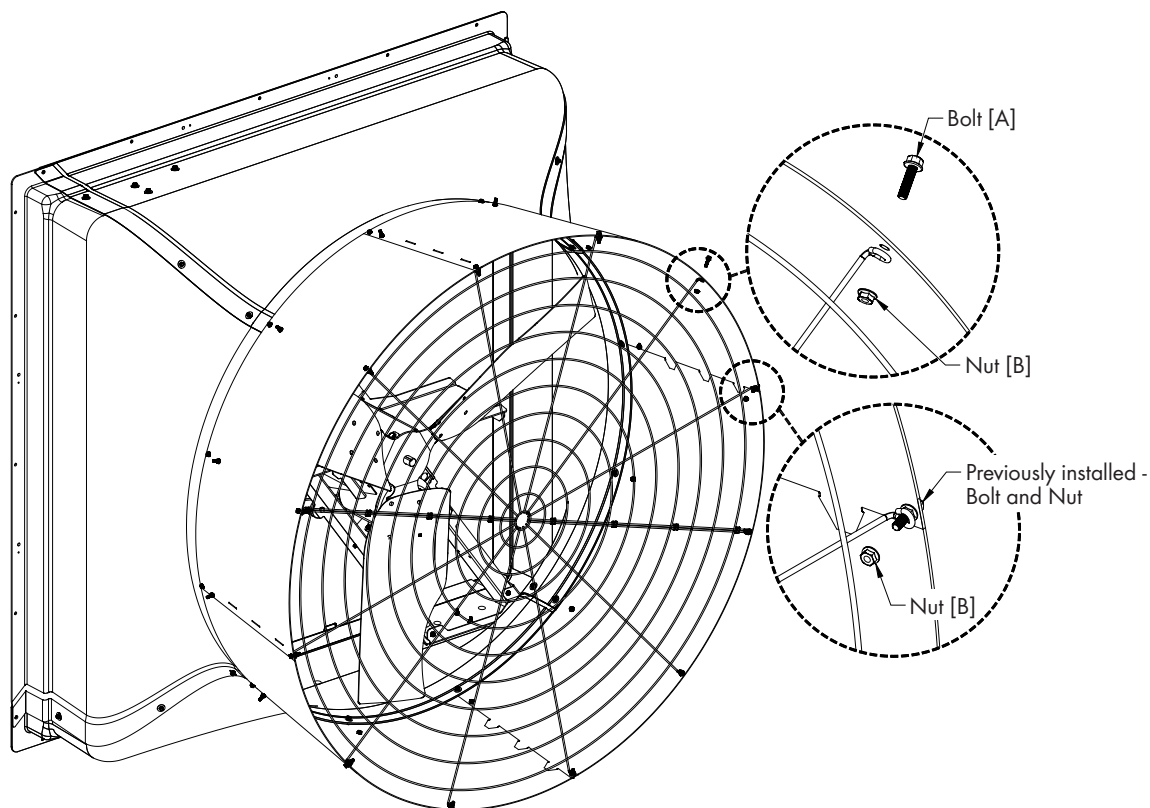

Figure 11
Insert guard into cone with the eyelets facing you. Install eyelets over (4) Bolts already installed at joints in cone and fasten with Nut [B]. Secure (8) remaining eyelets using Bolt [A] and Nut [B]. See Figure 11.